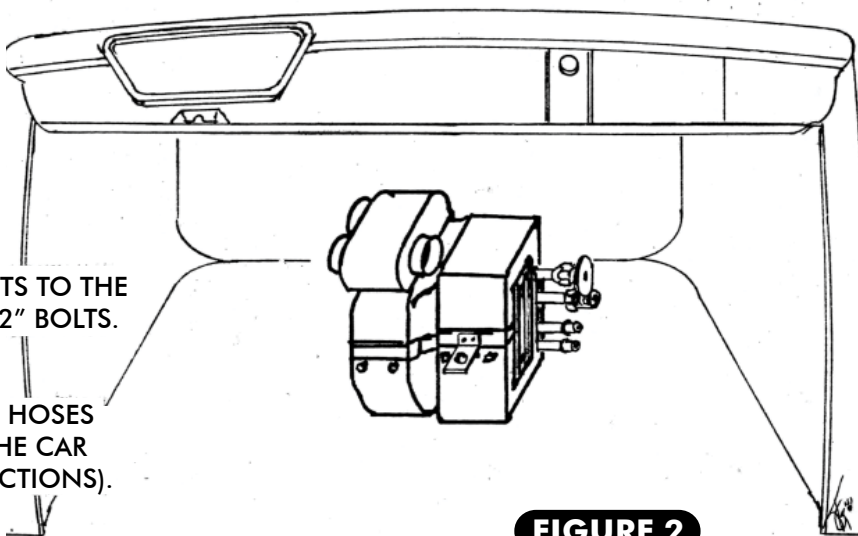

FIGURE 2
3. BRACKETS ARE FURNISHED TO MOUNT THE EVAPORATOR CASE (ATTACH TO FIREWALL AS SHOWN IN FIGURE 2, BELOW).
5. HAVE A HELPER HOLD THE UNIT UP AS HIGH AS POSSIBLE, AND THEN LOCATE THE BRACKET ON THE TOP RIGHT SIDE OF THE BLOWER HOUSING. DRILL THROUGH THE 1/4" HOLE IN THE BRACKET TO MARK THE FIREWALL. CHECK TO SEE IF THE LOCATION YOU MARKED LOOKS CORRECT AND WILL CLEAR OBSTRUCTIONS ON BOTH SIDES OF THE FIREWALL. IF SO, DRILL A 1/4" HOLE IN THE FIREWALL. ATTACH THE EVAPORATOR TO THE FIREWALL BY THE BLOWER MOTOR BRACKET WITH A 1/4" X 20 X 1/2" BOLT AND NUT. USING THE REAR EVAPORATOR BRACKET AS A GUIDE, MARK AND DRILL THROUGH THE 1/4" HOLE IN THE BRACKET. ATTACH THIS BRACKET TO THE FIREWALL WITH A 1/4" X 20 X 1/2" BOLT. THIS WILL LOCATE THE EVAPORATOR HORIZONTALLY. NOW SECURE THE FRONT EVAPORATOR SUPPORT STRAP TO THE UNIT WITH THE 1/4" X 20 X 1/2" BOLT FURNISHED. THIS SUPPORT BRACKET WILL ATTACH TO THE DASH MOUNT HEADER. WITH THE UNIT HELD IN PLACE AND LEVEL, MARK THROUGH THE 1/4" HOLE AT THE TOP OF THE BRACKET. MAKE SURE THAT THE SPOT MARKED WILL PROVIDE A GOOD MOUNTING LOCATION FOR THIS BRACKET, AND DRILL A 1/4" HOLE. SECURE THE MOUNT STRAP TO THE COWL HEADER WITH A 1/4" BOLT, AS SHOWN IN FIGURE 2, ABOVE.